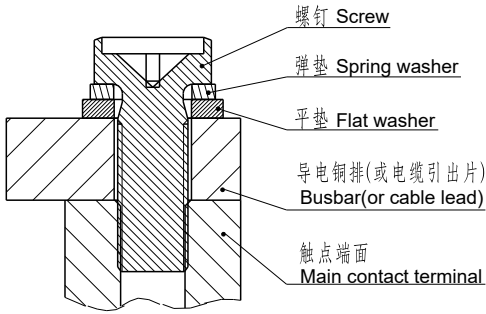

图1(Fig1)
- 当产品使用1个及多个导电铜排连接时，请确保导电铜排与触点端面紧密贴合（多个铜排需确保大电流的导电铜排最贴近触点端面，小电流的导电铜排其次），然后是平垫圈、弹簧垫圈、螺钉。不正确的连接顺序可能造成严重过热，参考下图1：
When the product is connected with one or more conductive copper bars, please ensure that the conductive busbars closely fit the contact terminal surface (The conductive copper bars with high current must be closet to the contact terminal surface if there are multiple copper bars and then conductive busbars with low current), followed by flat washers, spring washers and screws.Incorrect connection sequence perhaps give rise to severe overheating. Refer to Figure 1 as follows: